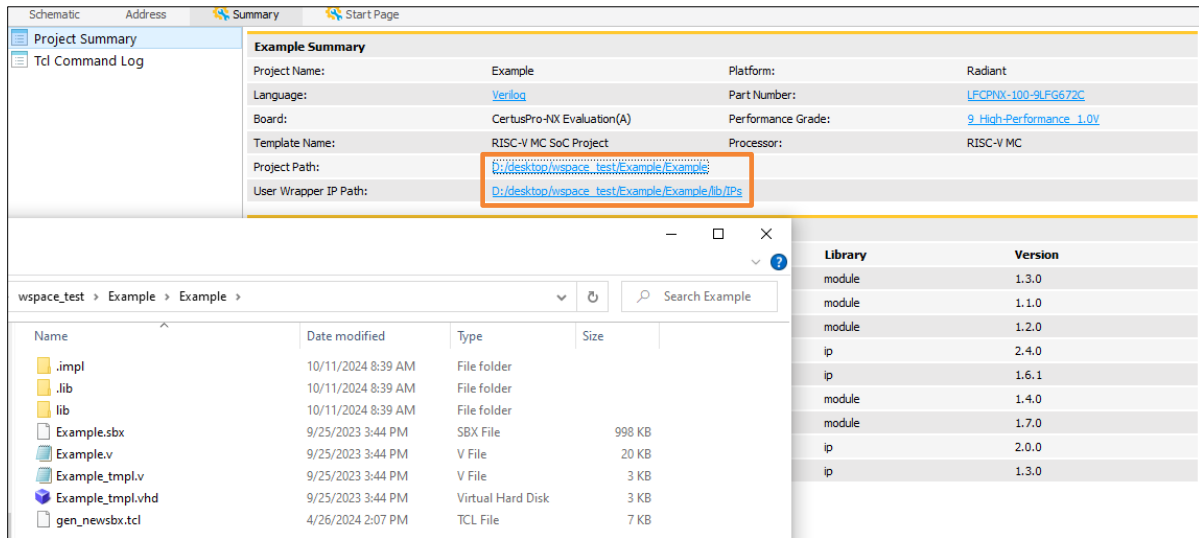

Figure 2.15. SoC Project Summary – Project Path or User Wrapper IP Path
- Click **Project Path** or **User Wrapper IP Path** link in **Summary** (Figure 2.15) to open the project folder or open the user wrapper IP folder in library.